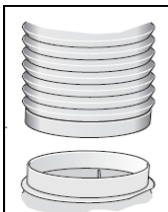

Fig. 6
## Connection to exhaust air pipe (Fig. 6 & 6.1)
- Attach Ø150mm pipe directly to the air outlet and secure appropriately (Fig. 6).